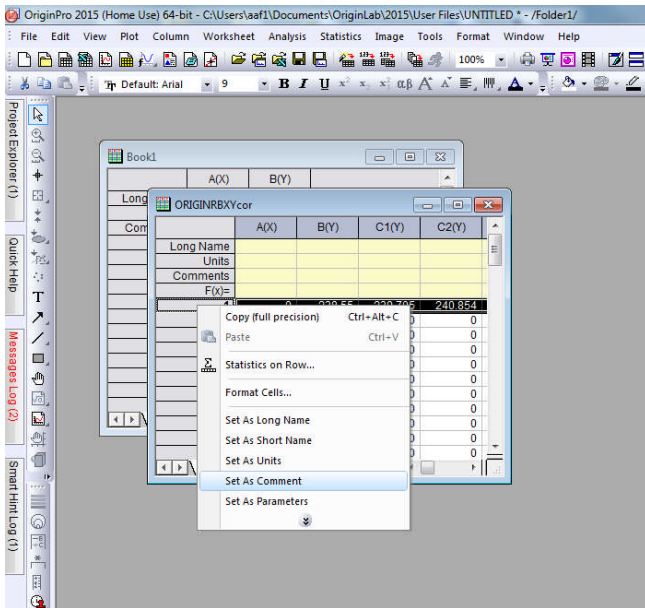

Figure 3: Set Wavelengths to a Comment
c) Click Right Mouse over the first row and click on 'Set as Comment' (Figure 3).